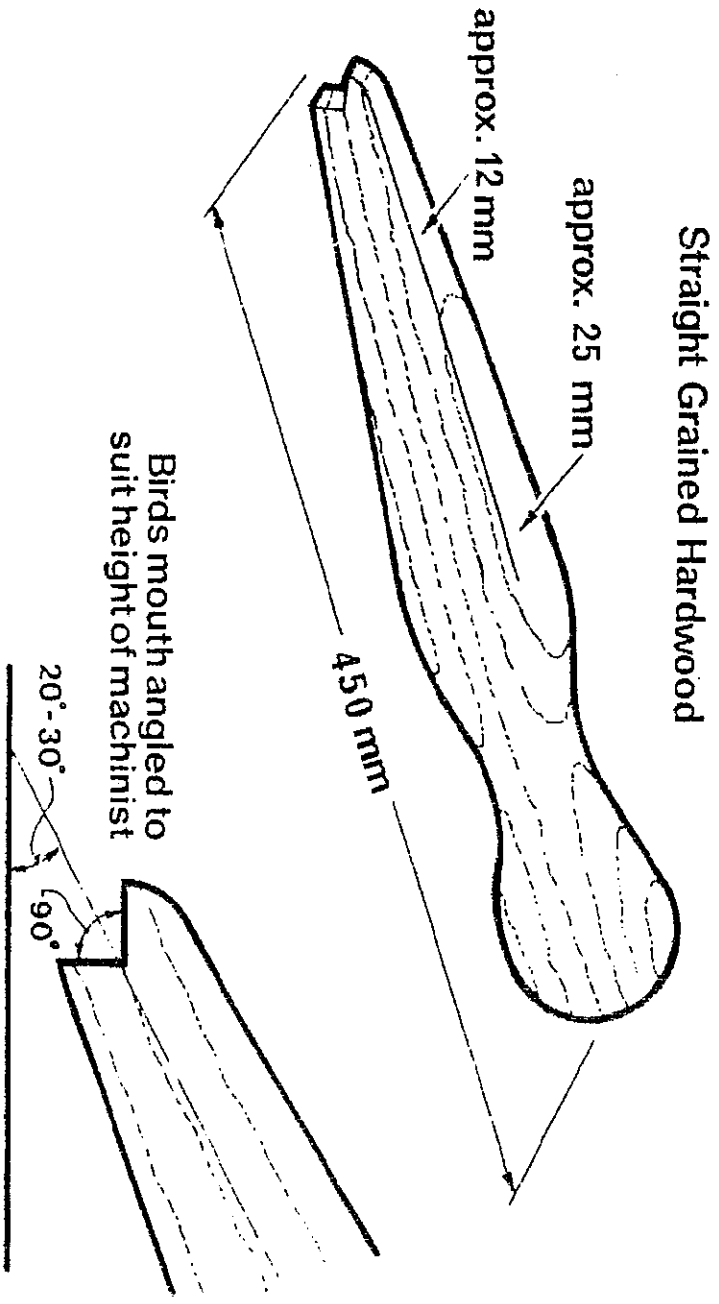

FIG.16
- c) Use a wood push stick FIG. 16 (Refer to 2.1 and 2.2) as much as practicable when feeding timber to avoid accidents.